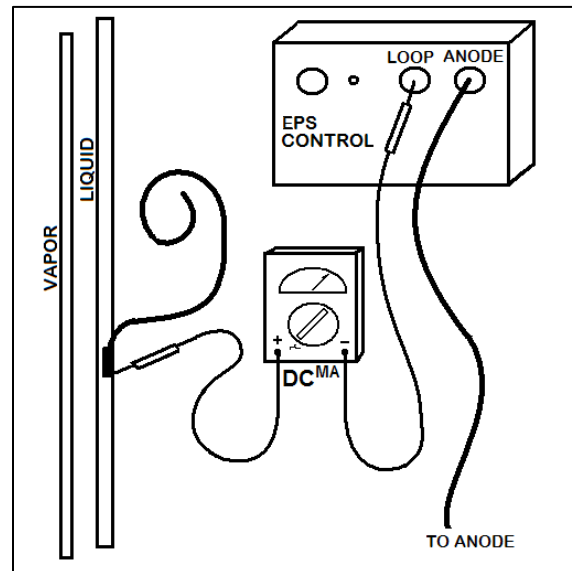

Figure 10. Test for DC Current
2. Disconnect the wire leading to the copper tubing at the EPS control. (Fig. 10)